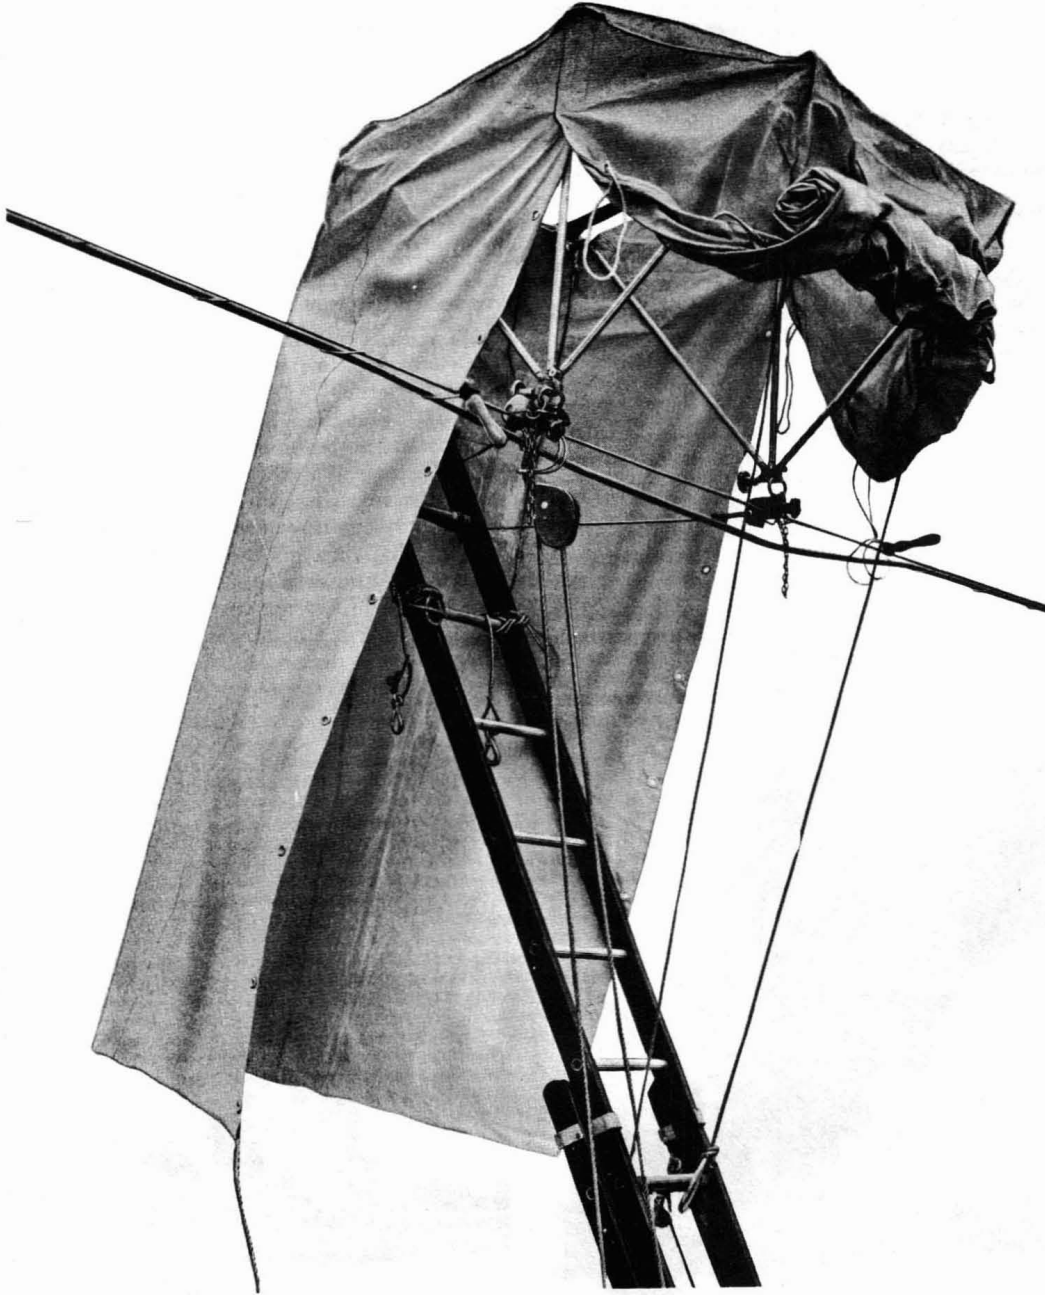

Fig. 10—D Workman's Tent Placed on Ladder
- 5.14** Untie the sidewall ropes, unroll the sidewalls, and lace the ends as required. Figure 10 illustrates the tent with the back sidewall unrolled and the front sidewall rolled up.